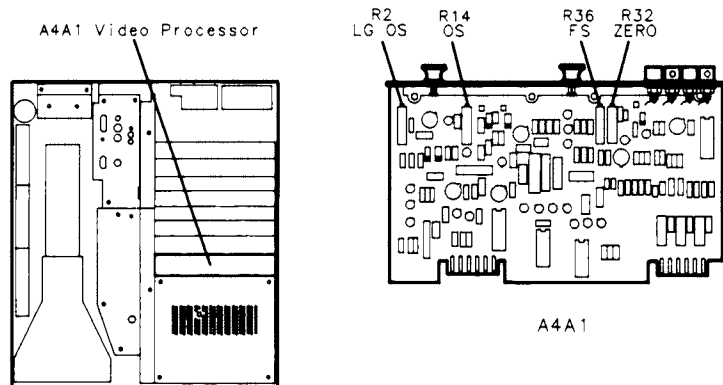

Figure 3-36. Location of Video Processor Adjustments
10. Adjust A4A1R14 OS for a DVM indication of 0.000 ± 0.003 Vdc. See Figure 3-36 for the location of the adjustment.
21. Adjust A4A1R2 LG OS for DVM indication of $+0.100 \pm 0.001$ Vdc greater than the DVM indication recorded in step 19. See Figure 3-36 for location of adjustment.